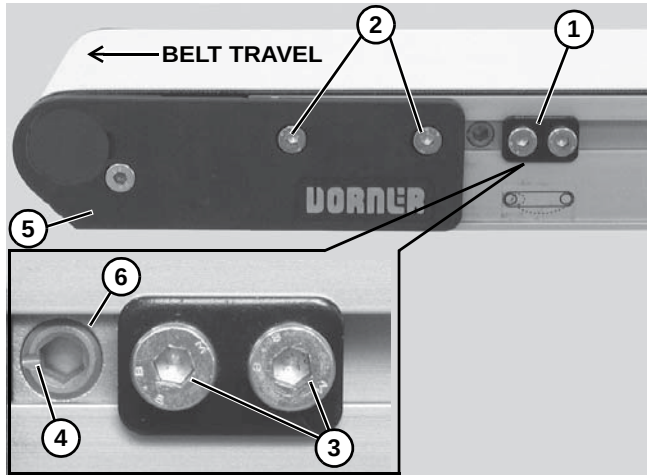

Figure 45
Non V-guided belt conveyors are equipped with belt tracking cam assemblies (**Figure 45, item 1**) for belt tracking adjustment.
1. Ensure head plate fastening screws (**Figure 45, item 2**) on both sides of conveyor are tightened.
2. On both sides of conveyor, loosen two (2) cam fastening screws (**Figure 45, item 3**). Adjust cams (**Figure 45, item 4**) until indicator slots (**Figure 45, item 5**) are horizontal and facing end of conveyor. Then slide cam assemblies against head plates (**Figure 45, item 6**) and re-tighten cam fastening screws (**Figure 45, item 3**) to 60 in-lb (7 Nm).
3. On the side toward which the belt is tracking, loosen head plate fastening screws (**Figure 45, item 2**).
4. With the conveyor running, use a 5 mm hex-key wrench to rotate the tracking cam (**Figure 45, item 4**) in small increments until the belt tracks in the center of the conveyor. Then while holding the cam in position, re-tighten the head plate fastening screws (**Figure 45, item 2**) with a 4 mm hex-key wrench to 60 in-lb (7 Nm).